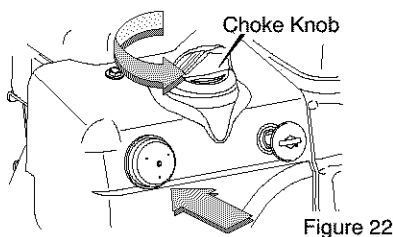

Figure 22
2. Turn the rotary choke knob to the CHOKE position (see Figure 22).
3. Depress the primer button three times (see Figure 22).